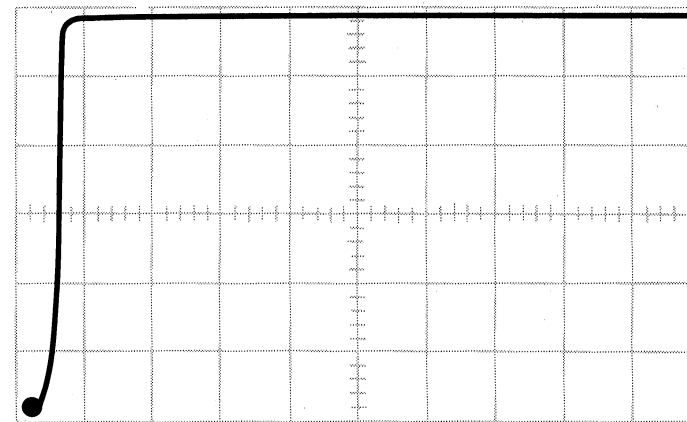

Figure 1-10
- () Turn the VERTICAL SENSITIVITY control counterclockwise until the display is near the top of the screen as shown in Figure 1-10.